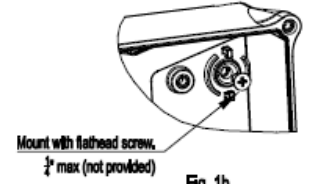

Fig. 1b
4. Mount Unit on Secure Flat Vertical Surface using flathead hardware (not provided) up to 1/4" max. (See Fig 1b)